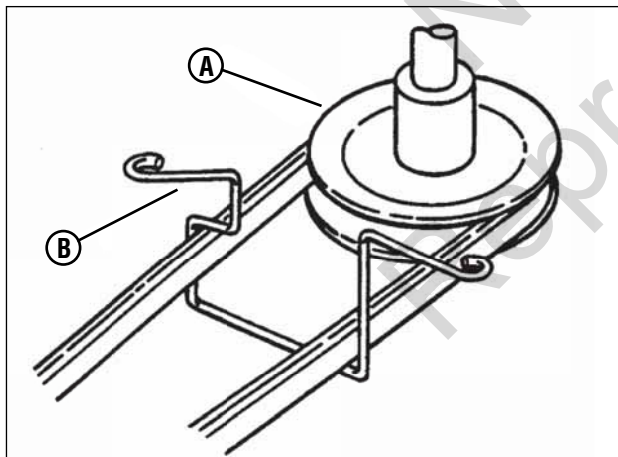

Figure 44: Engine pulley and belt guide
3. Route the new belt through the engine belt guide (B, Figure 44) up to the engine pulley (A).